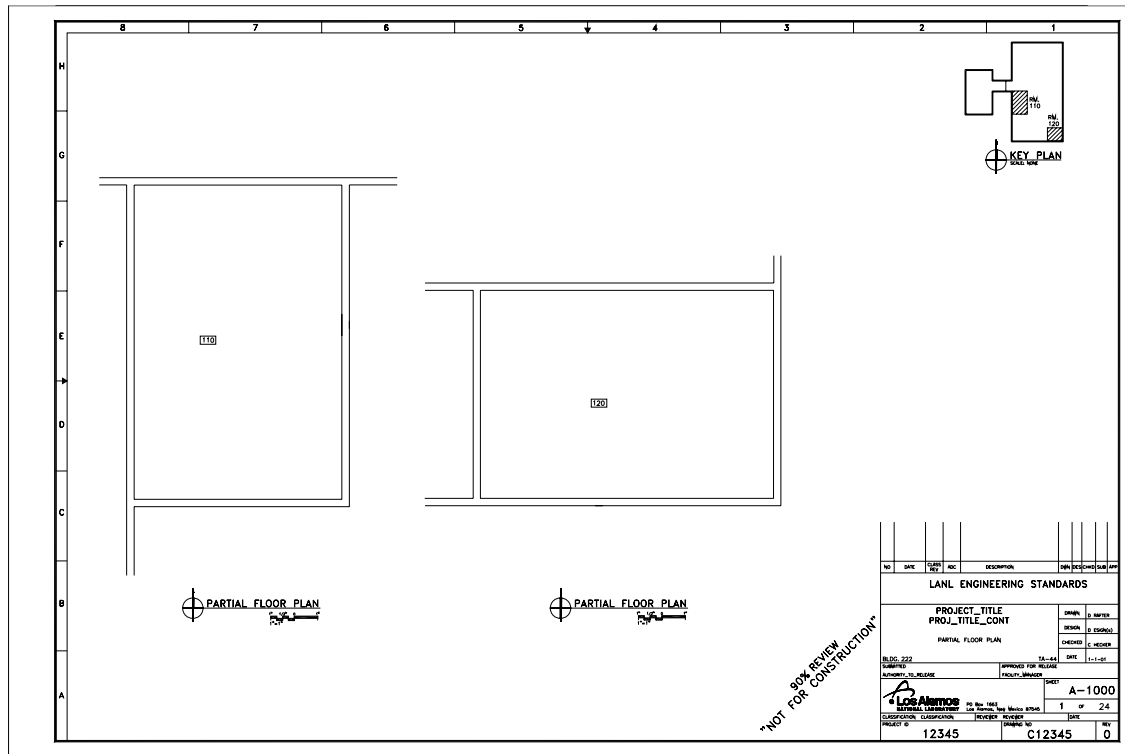

Figure 206-1
- Use a key plan (see Figure 206-1 above).
- B. In the illustration above, 3/32" text (the minimum allowable) is shown for the distance designations for all graphic scales because of the limited space available. The drawing scale designation text is shown at 1/8". These text heights were selected for graphic clarity. Graphic scales are to be right justified5 and 1/4" below the drawing title, see Figure 206-1 and 206-2 for examples.